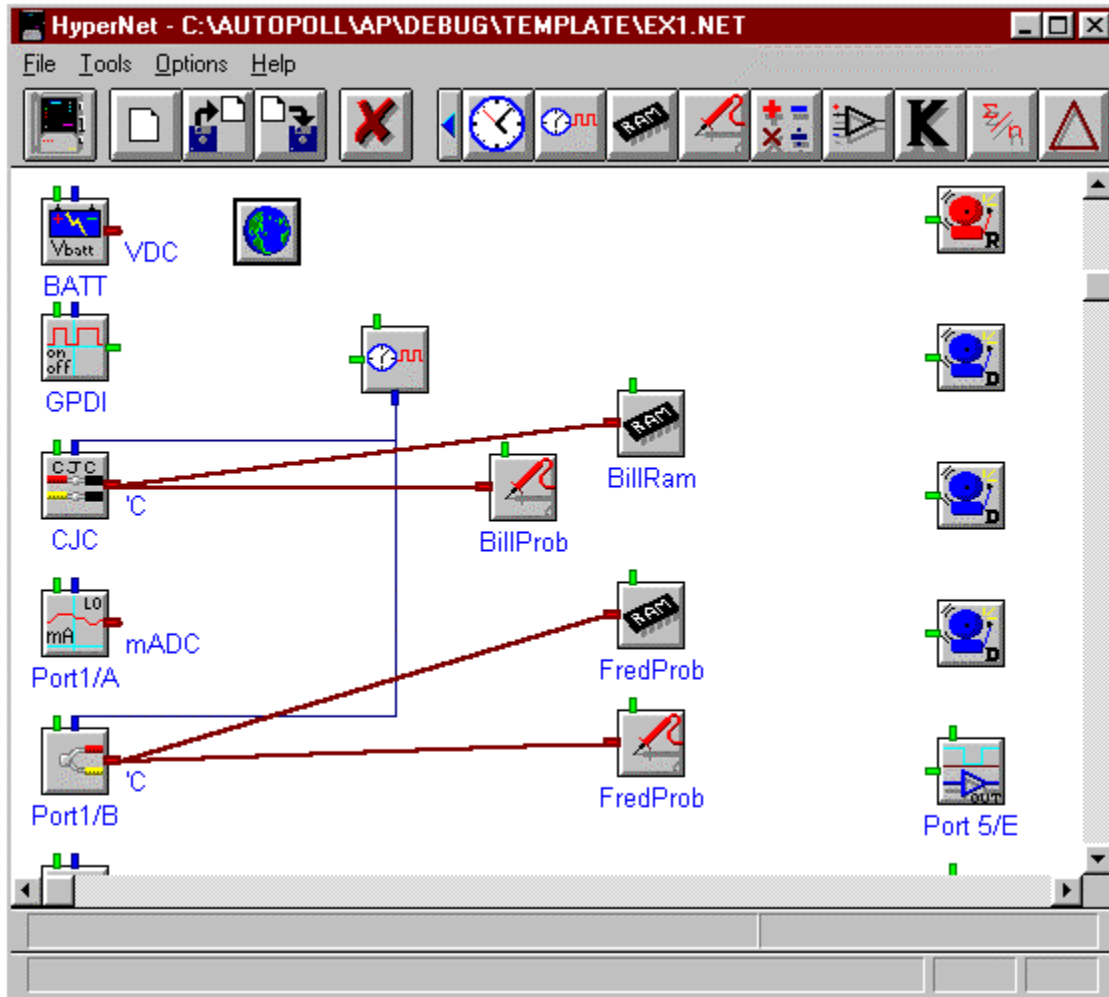
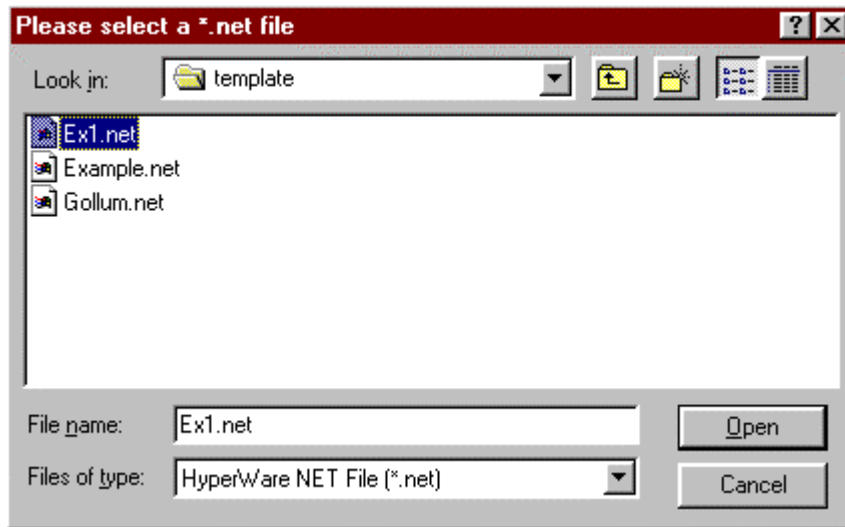

Figure 5.1.1 HyperWare net program, Example 5.1
Figure 5.1.2a Selecting the *.net file with HAP’s Report Generator, Example 5.1
Figure 5.1.1 below illustrates example 5.1 HyperWare net program.
4) Select “ex1.net”, the net illustrated in figure 5.1.1. Figure 5.1.2a below illustrates the selection of “ex2.net”. This file dialog appears subsequent to selecting “Specify Program Net” from HAP’s Report Generator.